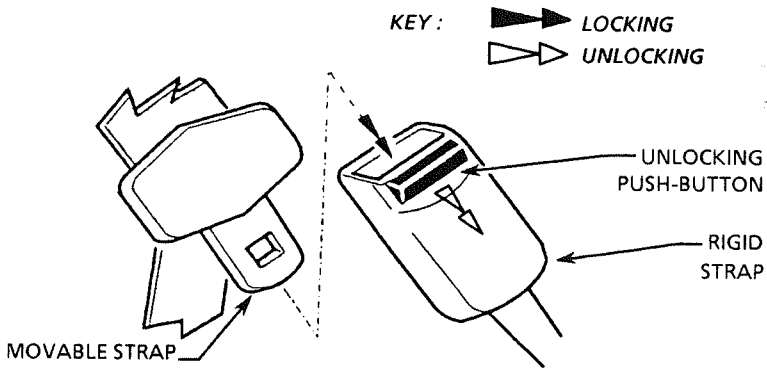

Figure 7.10 - FRONT SEAT BELT (with rigid strap)
**SEAT BELTS** (see Figure 7.10)
**Front seat belts** (with rigid straps) (see Figure 7.10)